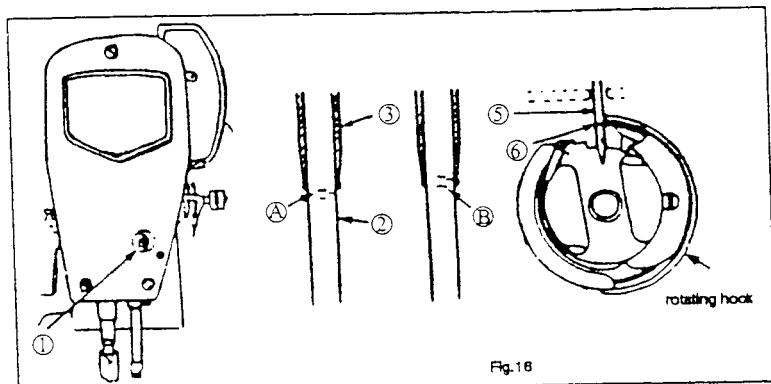

Fig.16
1. Loosen clamping screw ② of feed lifting rock shaft crank ①.
14. Needle and rotating hook relationship (Fig. 16)